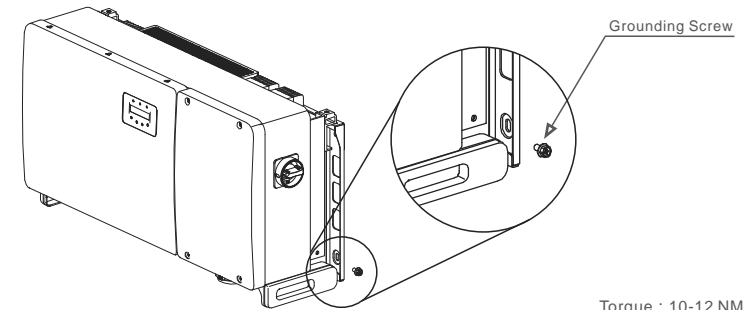

Figure 3.17 Fixed cable
- 6) Connect the grounding cable to the grounding point on the heat sink, and tighten the grounding screw, Torque is 10-12 Nm (see figure 3.17).